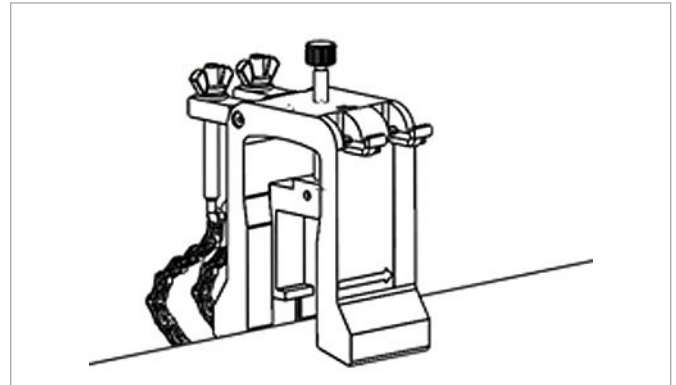

Figure 36: Yoke placement on top of pipe
2. Place the yoke on the top of the pipe (see *Figure 36* below). If the required transducer spacing is <305 mm/12 in., the yoke chain must be placed within the clamping fixture as shown.